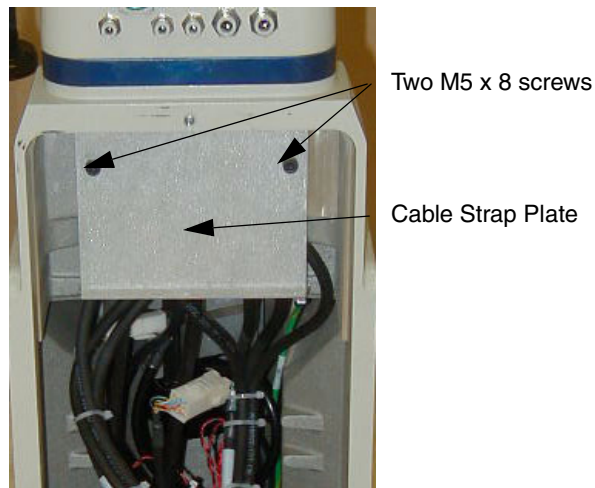

Figure 6-11. Removing the Cable Strap Plate
11. Remove the cable strap plate by removing two screws and split washers. See Figure 6-11. This allows the harness to move when you lift the J1 cover in the next step.